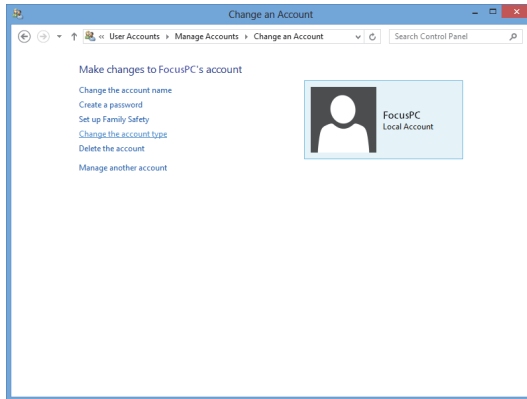

Figure 3-11 Changing the account type
9. In the **Change an Account** window, click **Change the account type** (see Figure 3-11 on page 58).